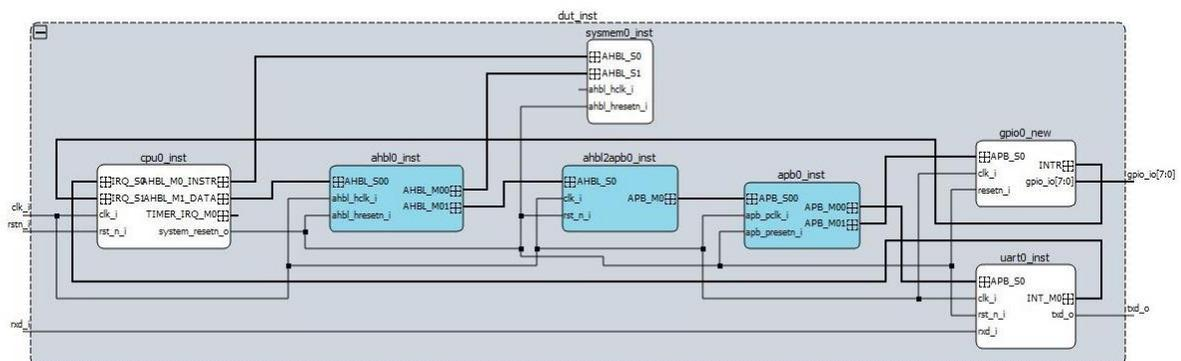

Figure 2.54. Whole SoC Design
- Click the plus sign  of this `dut_inst` DUT block. You can see the whole SoC Design (Figure 2.54). Click the negative sign  to close the expanded bus.